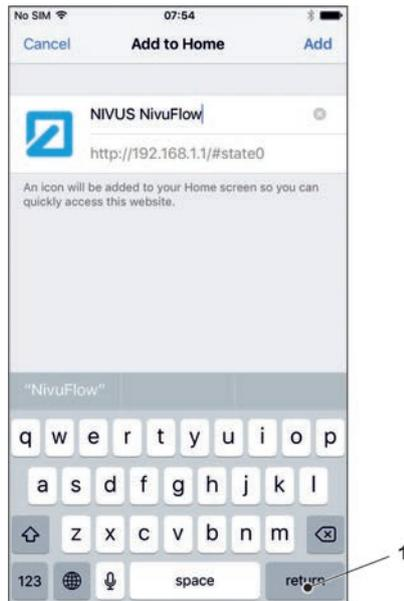

Fig. 26-16 Confirm adding
10. Confirm with "Return" (Fig. 26-16 Pos. 1).